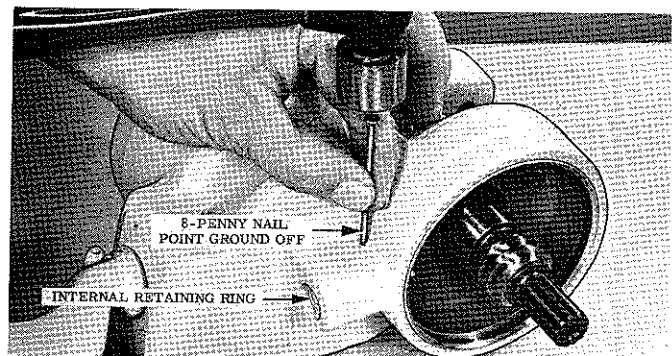

Figure 6-7. Driving Out Roll Pin Holding Load Brake Pawl
g. Using an 8 penny nail, with point ground off, shown in Figure 6-7, or a drift punch, drive out the roll pin holding load brake pawl in position in its housing bore. Pawl and spring come out as pin is removed.